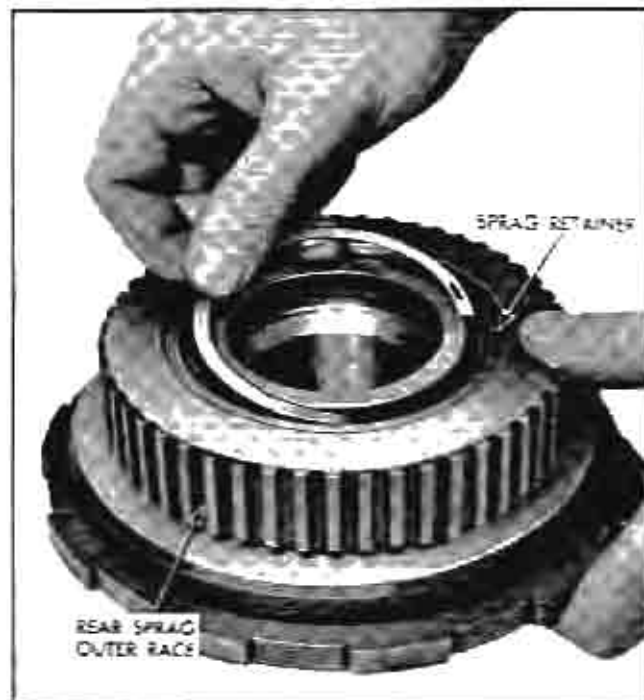

Fig. 95 Installing Rear Unit Sprag Retainer Snap Ring
21. Install spiral snap ring on rear sprag inner race (Fig. 95).